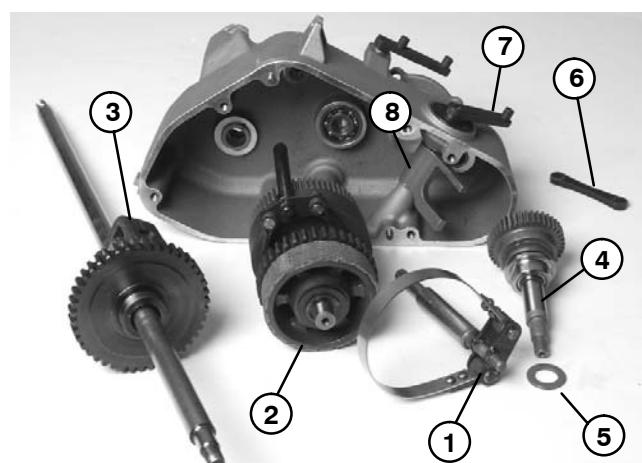

Figure 43
8. Carefully remove traction shaft from the gearbox taking care not to distort traction band (Fig. 43). **Note:** If gearbox is still attached to engine, traction lever on engine side of gearbox will have to be loosened and removed as traction shaft is pulled from gearbox.
9. Slide differential assembly from gearbox (Fig. 43).
10. Pull planetary assembly (with parking brake assembly) from gearbox (Fig. 43). **Note:** Parking brake lever will need to be removed if still attached to brake shaft. Use Figure 44 as a guide to remove components from planetary assembly. If input gear is removed, note orientation on shaft.
11. Remove retaining rings that secure link to clutch bellcrank and clutch fork shaft (Fig. 43). Remove link.
12. Rotate clutch fork shaft to allow removal of reel drive clutch shaft assembly from gearbox base (Fig. 43). Use Figure 45 as a guide to remove components from clutch shaft.